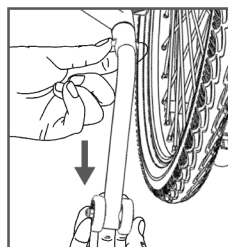

Figure 10
- Installation and removal of anti-roll wheel: hold the marble on the anti-roll wheel with your fingers while installing and insert it into the frame hole until the marble fastens to the marble hole of the wheelchair. While removing, hold the marble with one hand and pull the anti-roll wheel off backwards with the other hand, see Figure 10 (Note: the anti-roll wheel is about 4 cm from the ground).